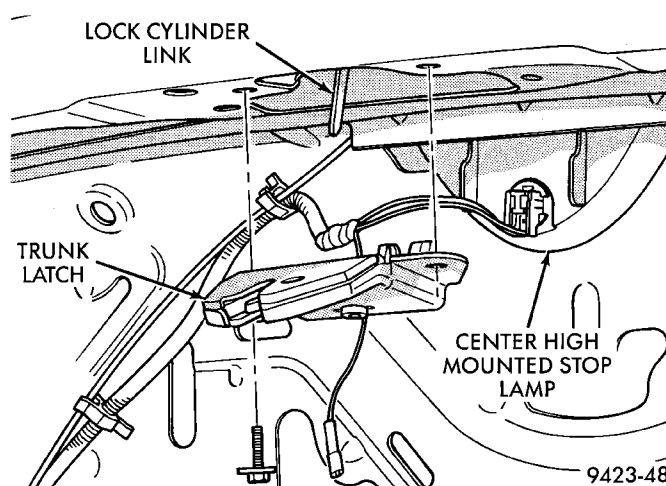

Fig. 76 Trunk Latch
- (1) Release trunk lid latch and open trunk lid.
- (2) Remove bolts holding trunk latch to trunk lid (Fig. 76).
- (3) Separate trunk latch from trunk lid.
- (4) Disconnect remote trunk latch release cable form trunk latch.
- (5) Disengage trunk ajar switch connector from latch.
- (6) Separate latch from vehicle.